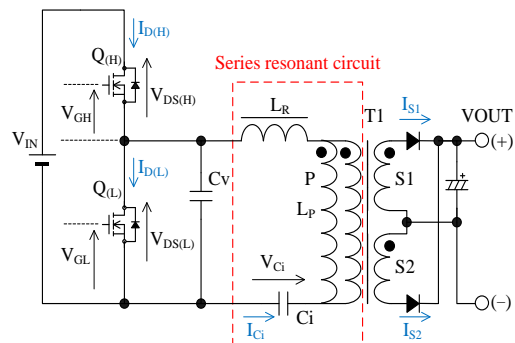
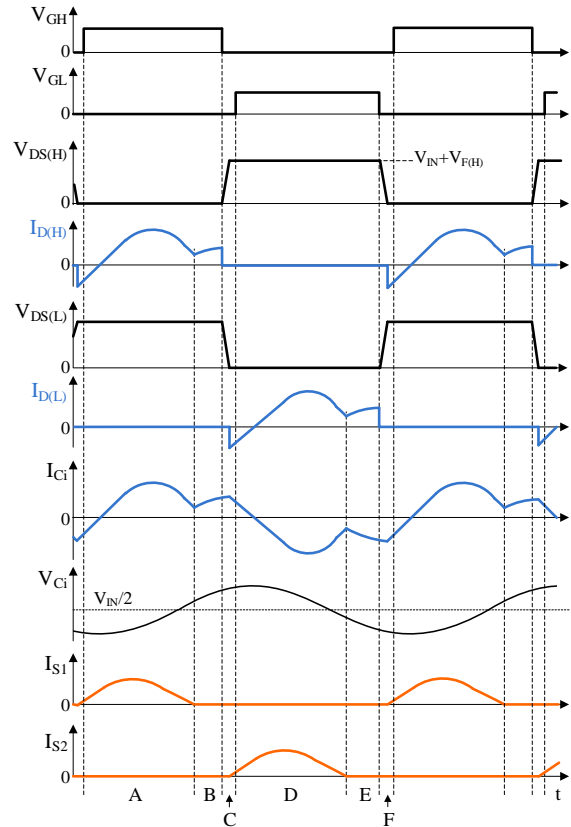

Figure 9-3. Current Resonant Power Supply Circuit
Figure 9-4. The Basic Operation Waveforms of Current Resonant Power Supply
Figure 9-3 shows the circuit of a current resonant power supply. The basic configuration of the current resonant power supply is a half-bridge converter. The switching devices, Q_(H) and Q_(L), are connected in series with V_{IN}. The series resonant circuit and the voltage resonant capacitor, C_v, are connected in parallel with Q_(L). The series resonant circuit consists of the following components: the resonant inductor, L_R; the primary winding, P, of a transformer, T1; and the current resonant capacitor, C_i. The coupling between the primary and secondary windings of T1 is designed to be poor so that the leakage inductance increases. This leakage inductance is used for L_R. This results in a down sized of the series resonant circuit. The dotted mark with T1 describes the winding polarity. The secondary windings, S1 and S2, are connected so that the polarities are set to the same direction as shown in Figure 9-3. In addition, the winding numbers of each other should be equal. From Equation (1), the impedance of a current resonant power supply is calculated by Equation (5). From Equation (4), the resonant frequency, f₀, is calculated by Equation (6).
Figure 9-4 describes the basic operation waveform of current resonant power supply (see Figure 9-3 for the symbols in Figure 9-4). For the description of current resonant waveforms in normal operation, the operation is separated into a period A to F. In the following description: